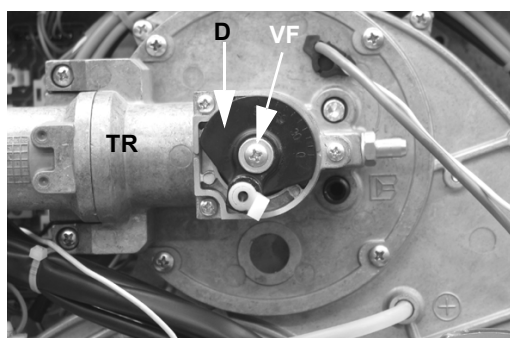

Fig. 18: Old position
- 8 (Fig. 18)Insert again the flange and the combustion head together
- 9 (Fig. 18)Rotate the disc **D** following the instructions below.
- 10 Take off the screw **VF**.(Fig. 18)